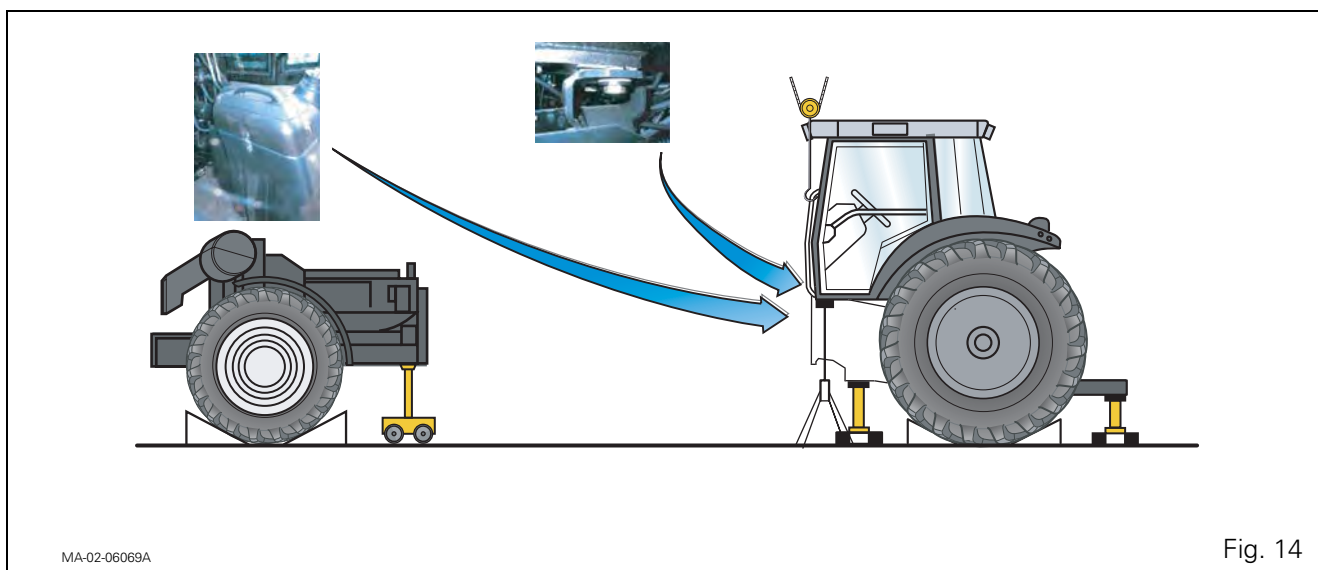

Fig. 14
24. Install (Fig. 14):
27. Assisted by an operator, separate the assemblies (Fig. 14). During disassembly, check that all connections (hoses, pipes and harnesses) are disconnected.